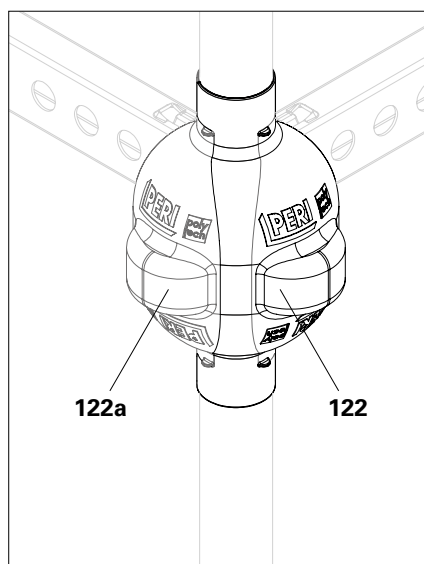

Fig. A7.06
2. For ledgers arranged around a 90° corner: fit Poly Cover UPC-C (**122 + 122a**) in an overlapping manner. (Fig. A7.06)